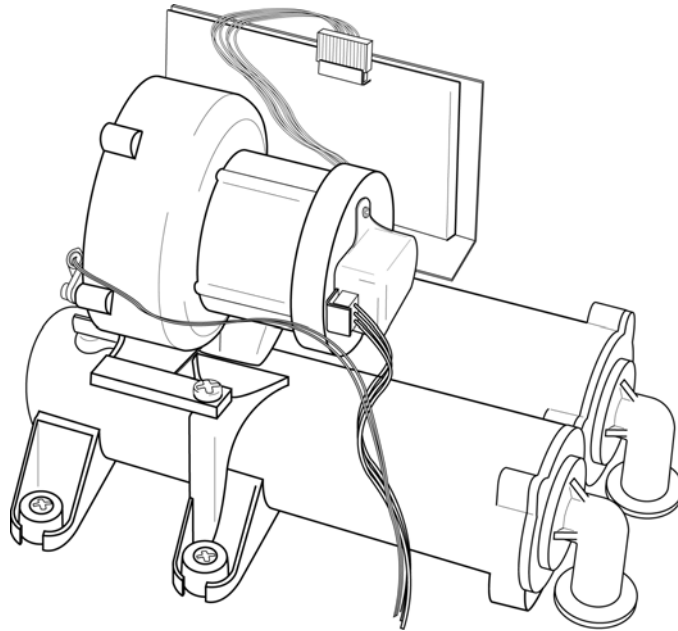

Figure 3.18 Turbine & Muffler assembly
3. If installed, use a 3/4" wrench to remove the high and low pressure oxygen fittings from the rear of the unit, noting that the high pressure fitting is located above the low pressure fitting (see figure 3.18).